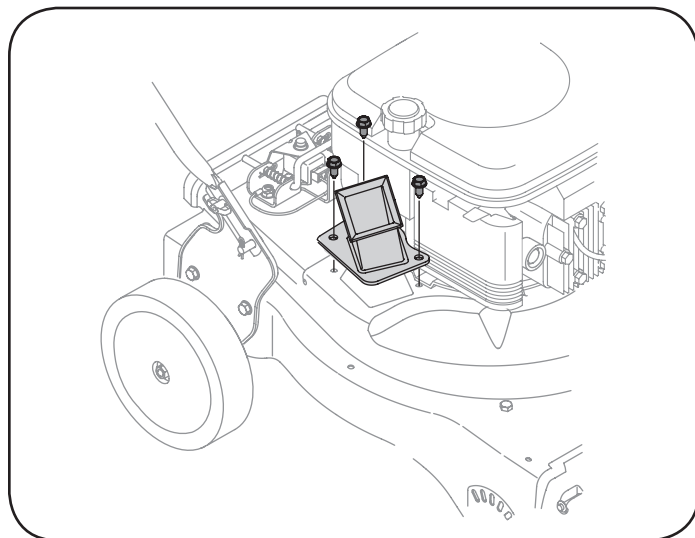

Figure 19
3. Remove the three hex cap screws holding the chipper chute to the upper housing. See Figure 19.